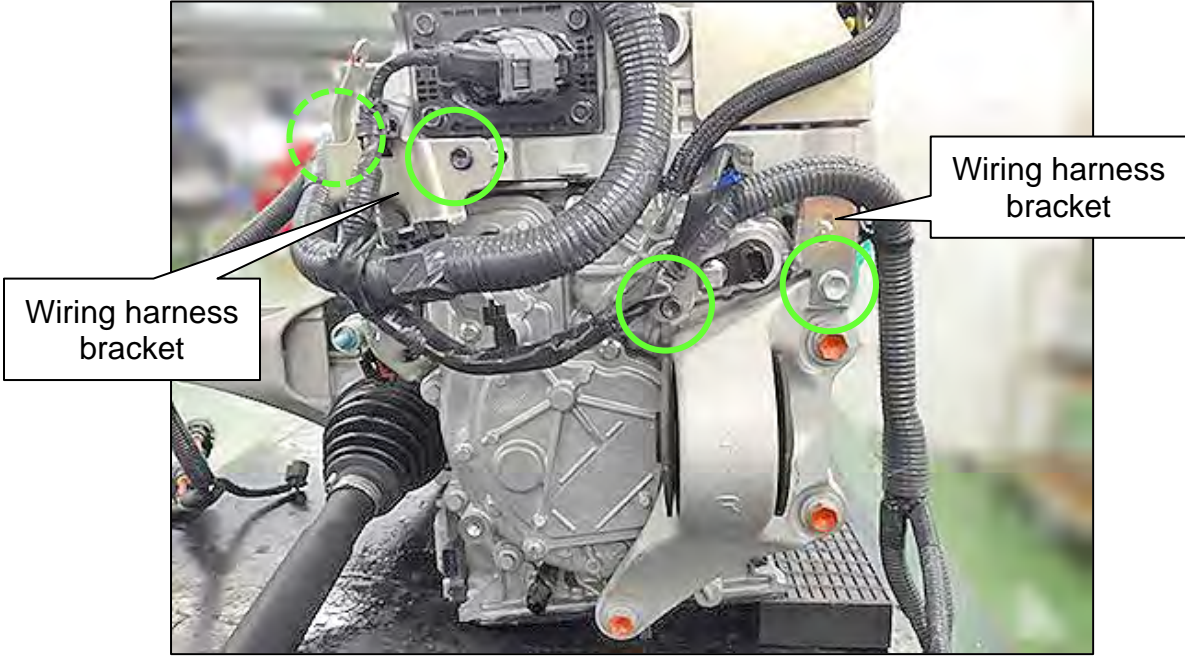

Figure 122
- Two (2) bolts for each bracket (one hidden in Figure 122).